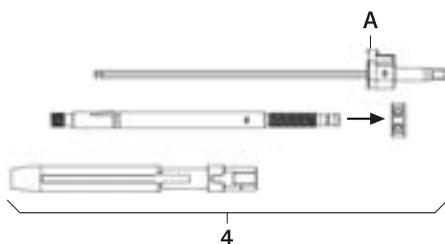

Fig. 1
- To dismount reduction lever **4**, see Fig. 1: Firmly press button **A** and remove screwdriver FW234R.